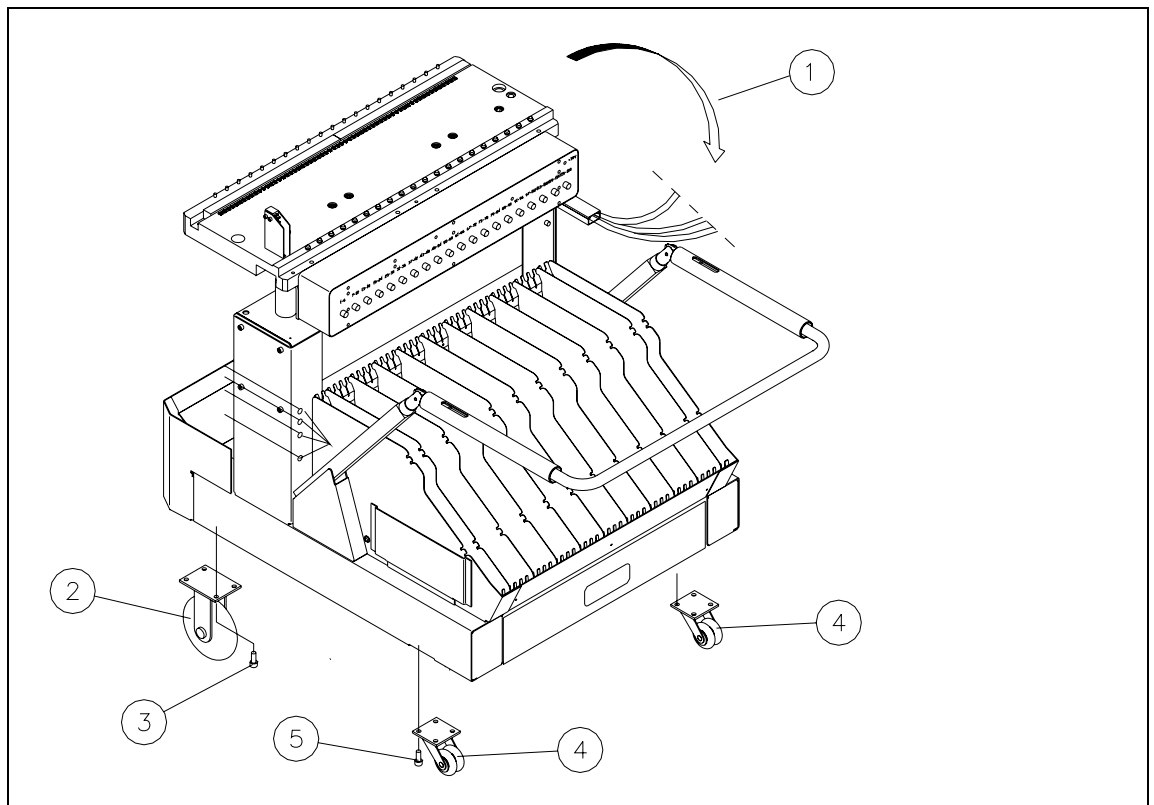

Fig. 9.5.2 *Exchanging Fixed Castor(s) or /and Guide Castor(s)*
- Enlist the aid of a 2nd strong person and set the component changeover table on the side. (see Fig. 9.5.2 -> 1).
- Undo the screws fastening the fixed castor and/or guide castor to be exchanged (size 6 Allen wrench: see Fig. 9.5.2).